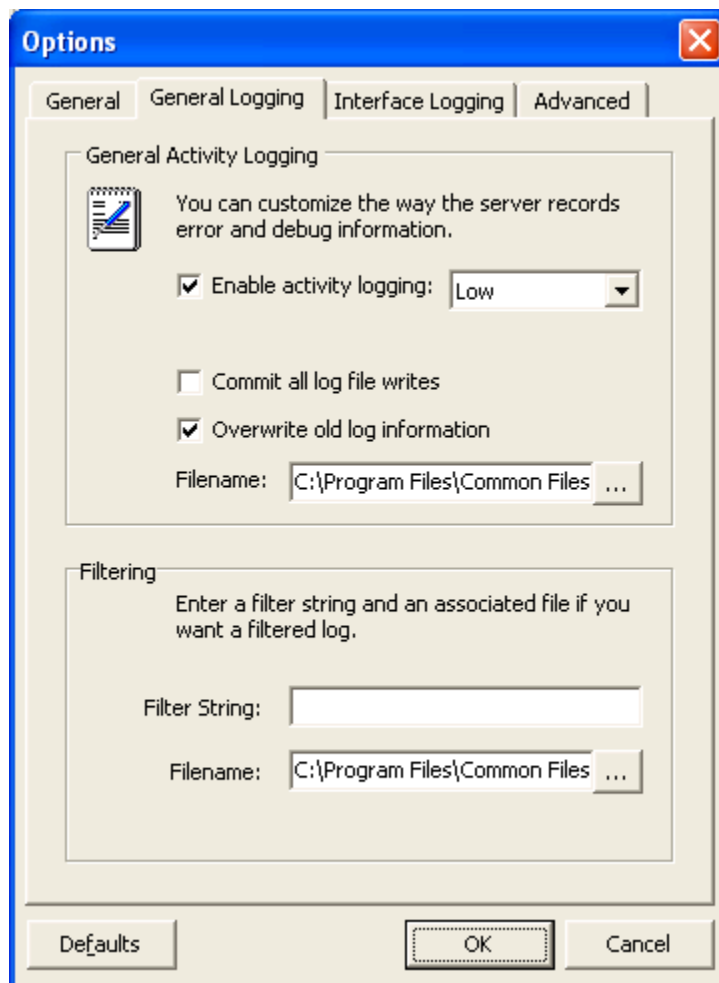

Figure 16 - General Logging Options Tab
3. From the **Options** window, select the **General Logging** tab (Figure 16).